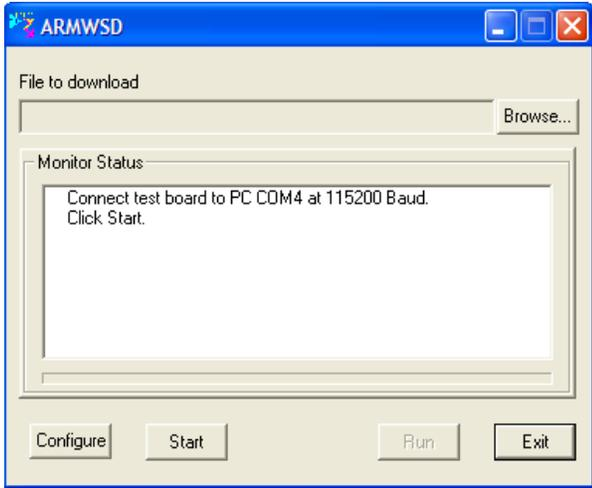
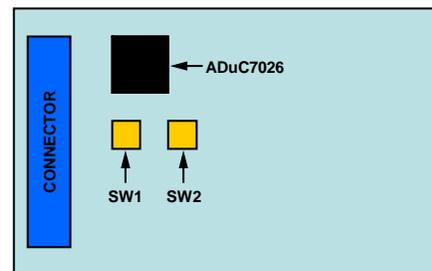

Figure 7. ISEB ARMWSD Firmware Downloader
Figure 10. ISEB Switch Locations for Flashing the Microcontroller
2. Run the **ARMWSD.exe** program (it can be downloaded from any **EVAL-ADXL3xxZ-M.zip**, **EVAL-ADXL3xxZ-MLP.zip**, or **EVAL-ADXRS290Z-M.zip** files at ftp://ftp.analog.com/pub/iMEMS_Sensor_Eval/). The **ARMWSD** dialog box displays information about the downloader, as shown in Figure 7.
When the COM port is selected, click OK to accept the changes and go back to the **ARMWSD** box (shown in Figure 7).
1. Click **Start** in the **ARMWSD** box (see Figure 7) to initiate the flashing process, and press the two buttons (shown in Figure 10) on the ISEB in the following order to flash the firmware:
2. If the downloading process fails, which is shown in the **Monitor Status** box (see Figure 7), click **Start** to attempt the download again and then press the appropriate switch combination. It may take a few attempts to reprogram the board successfully.
3. After the download has completed, click **Run** (as shown in Figure 7) to reset the ISEB and to begin running the new firmware. When this step is complete, the board is updated correctly.